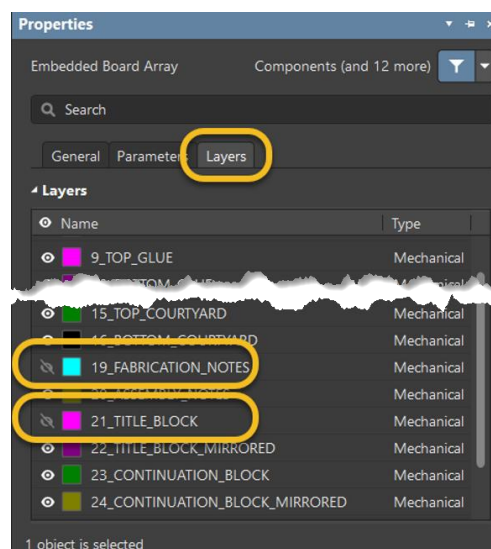

Figure 3. Mechanical layer display for referenced PCB
- Scroll down to the group of *Mechanical Layers (Type Mechanical)*, select the eye icon  to hide layers 19_FABRICATION_NOTES and 21_TITLE_BLOCK as shown in Figure 3.